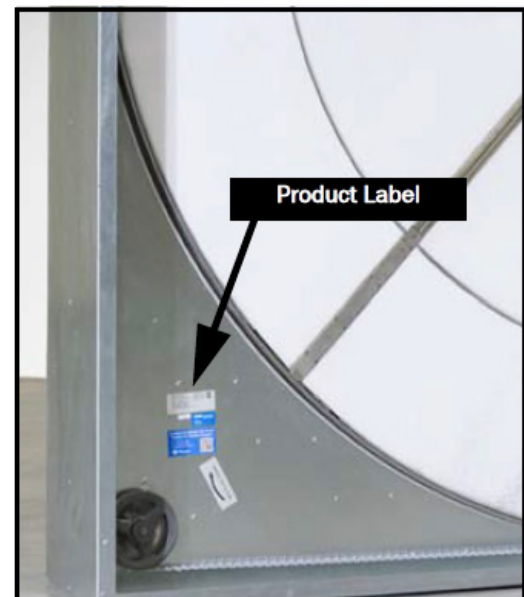

Figure 5 Product label (with serial number) on pulley corner of each wheel.
All Airxchange wheels are labeled with Model, Serial, and Part numbers. The label can be found on the sheet metal adjacent to the drive pulley, Figure 5. You should always have a serial number when contacting Airxchange for product support or when ordering replacement parts.
- Parts Lookup - Access replacement parts information, drawings & more for your Airxchange wheel(s) using the six digit serial number on the product label, Figure 5.